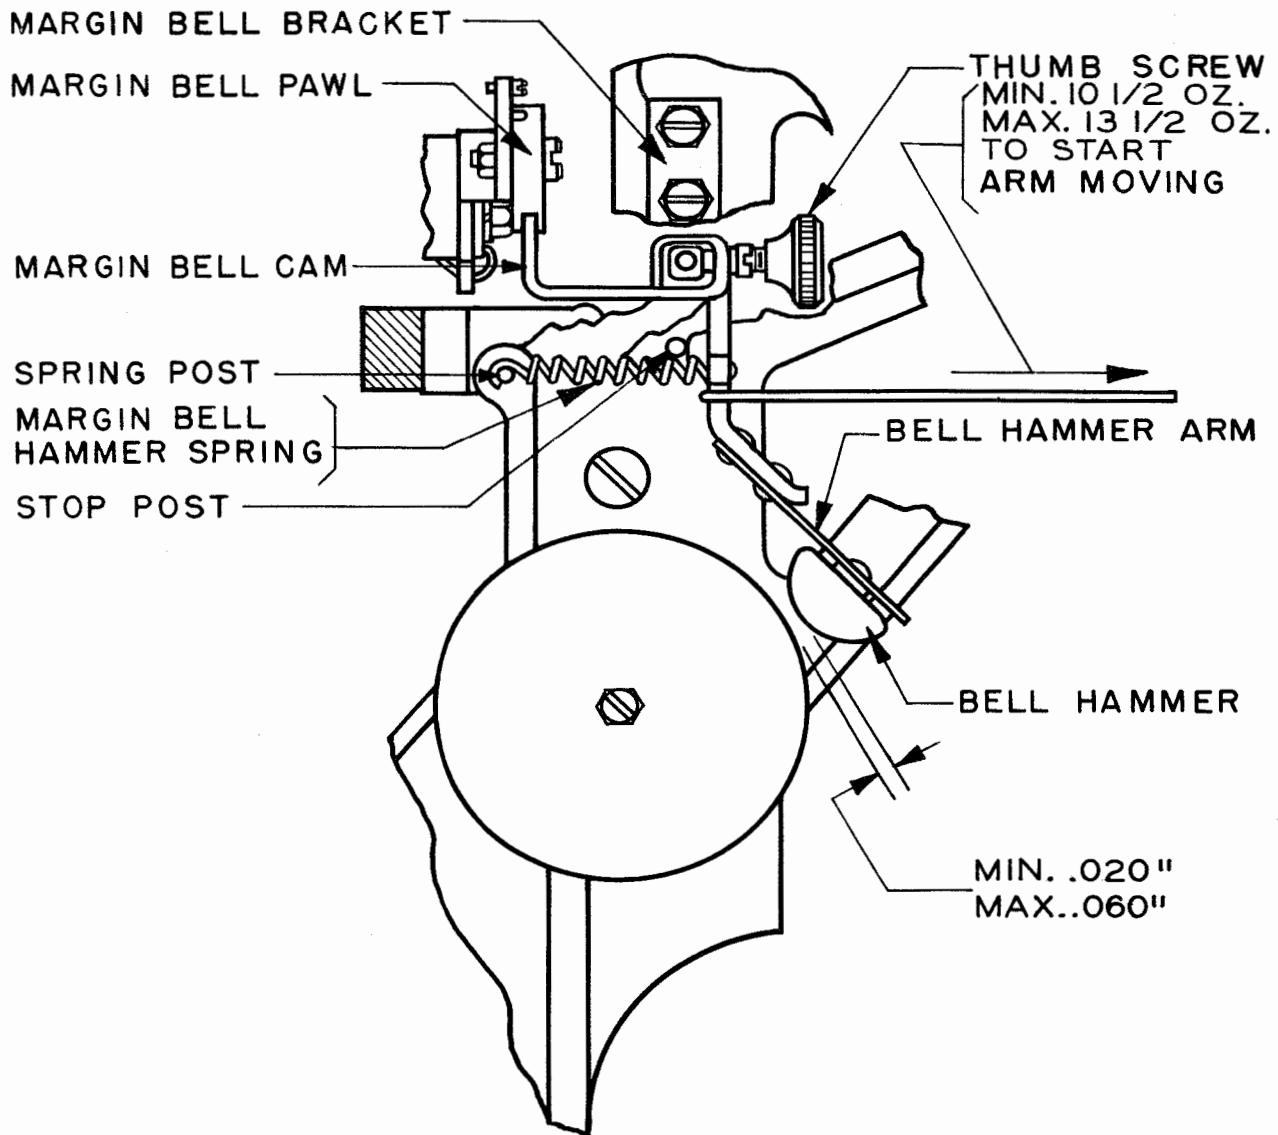

Figure 41
2.90 Margin-bell Hammer should clear its bell by minimum 0.020 inch, maximum 0.060 inch when the hammer arm is resting against its stop-post. Gauge by eye. See Figure 41.
2.91 Margin-bell-hammer Spring should have a tension of minimum 10-1/2 ounces, maximum 13-1/2 ounces. See Figure 41.